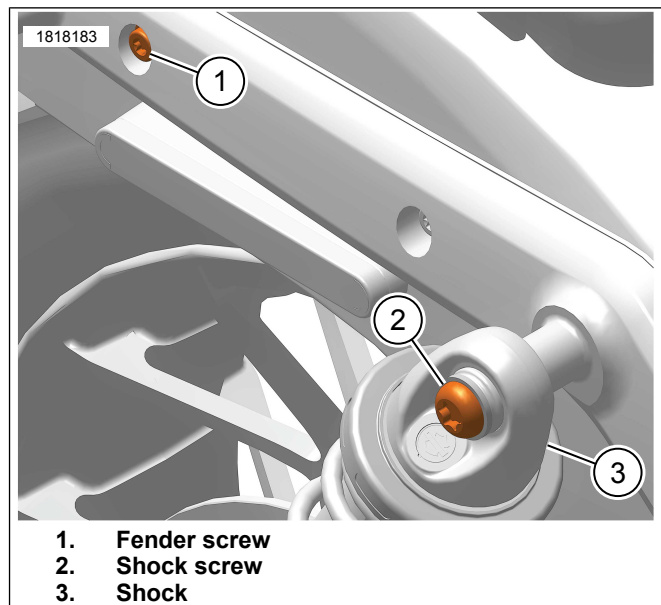
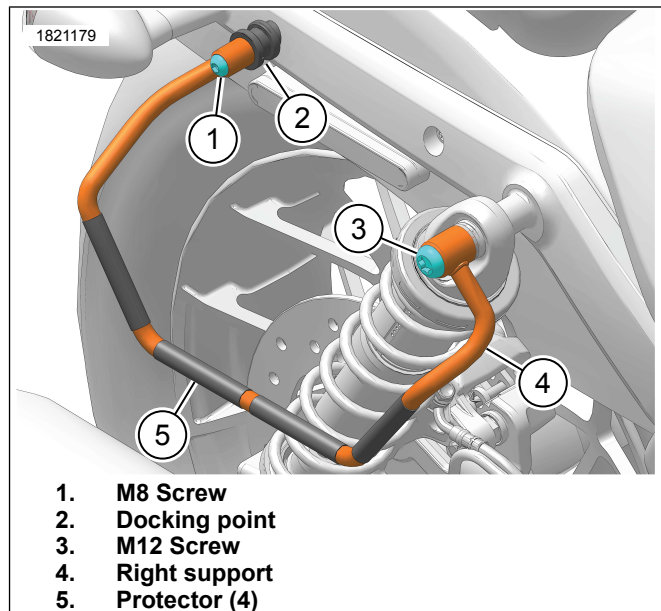

Figure 2. OE Components
Figure 3. Saddlebag Support
1. See Figure 2. Remove and discard rear fender screw (1).
2. Remove and discard top shock screw (2).
- a. Support shock (3) to prevent vehicle damage.
3. See Figure 3. Position right support (4) and shock.
4. Loosely install M12 screw (3).
5. Position docking point (2) and right support (4).
6. Loosely install M8 screw (1).
8. Tighten M12 screw (3).